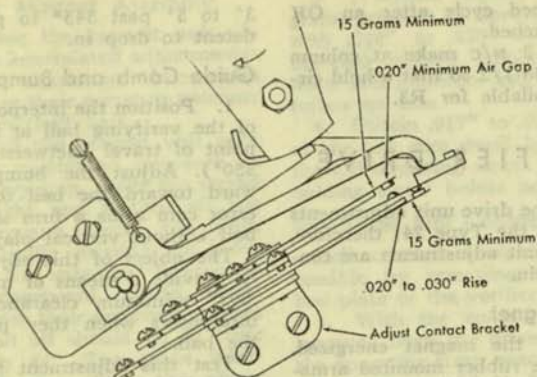

Figure 1. Program Cam Contact Adjustment
2. Set the contact levers on the high point of the cam (approximately column 84 as shown in Figure 1). Position the contact bracket for a make of the N/O points with $.020''$ to $.030''$ rise off the support. Form the N/C support for a minimum air gap of $.020''$. Rotate the lever bracket to hold the levers $1/64''$ from the phenolic pads on the closest transfer strap. There should be a minimum of $.020''$ air gap at the N/O contacts when the contact levers are off the cam. See that neither lever grounds out the rivet on the contact.